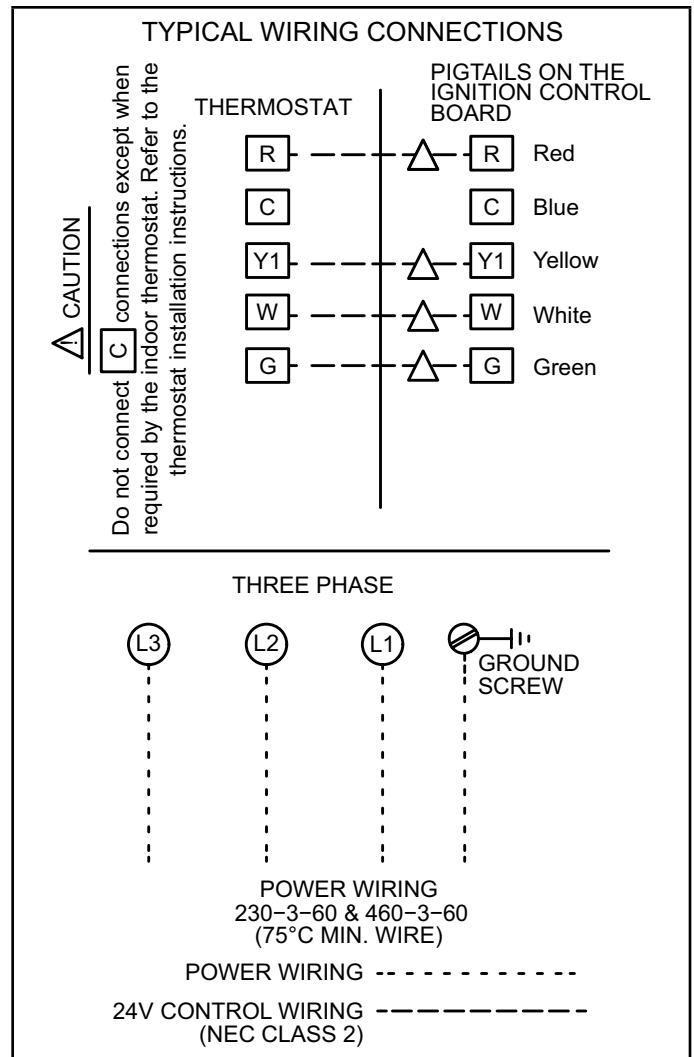

FIGURE 8
- 3 - Connect thermostat wiring to leads in control panel. Wire as shown in FIGURE 8.